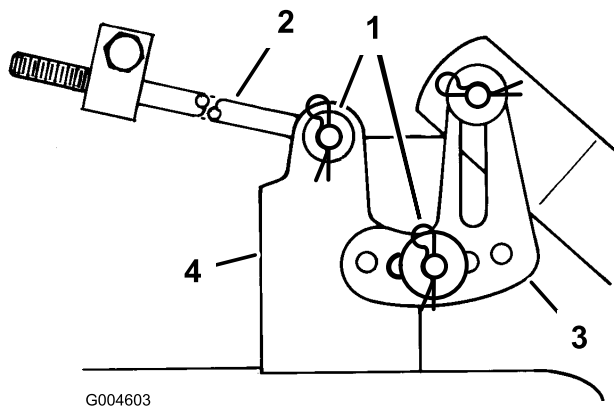

Figure 39
15. Remove the hairpin cotter and washer at the top of the mower leveling bracket (Figure 39).
17. Remove the hairpin cotter and washer from the end of the long rod (Figure 39). Slide the rod out of the mower mount. Repeat this step on the opposite side of the mower.
13. Slide the end of the long rod through the hole in the mower mount (Figure 39).
15. Mount the slotted mower leveling bracket onto the pin on the height-of-cut arm (Figure 39).